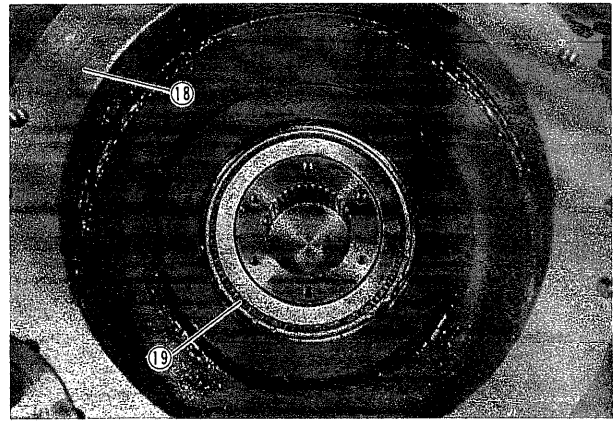

Fig. 97
- (5) Assemble disc (18) -SV91T & SV91D, (54) -SV91, and install bearings (19) to it being careful not to damage oil seals (27) and seal ring (31). (Fig. 97)